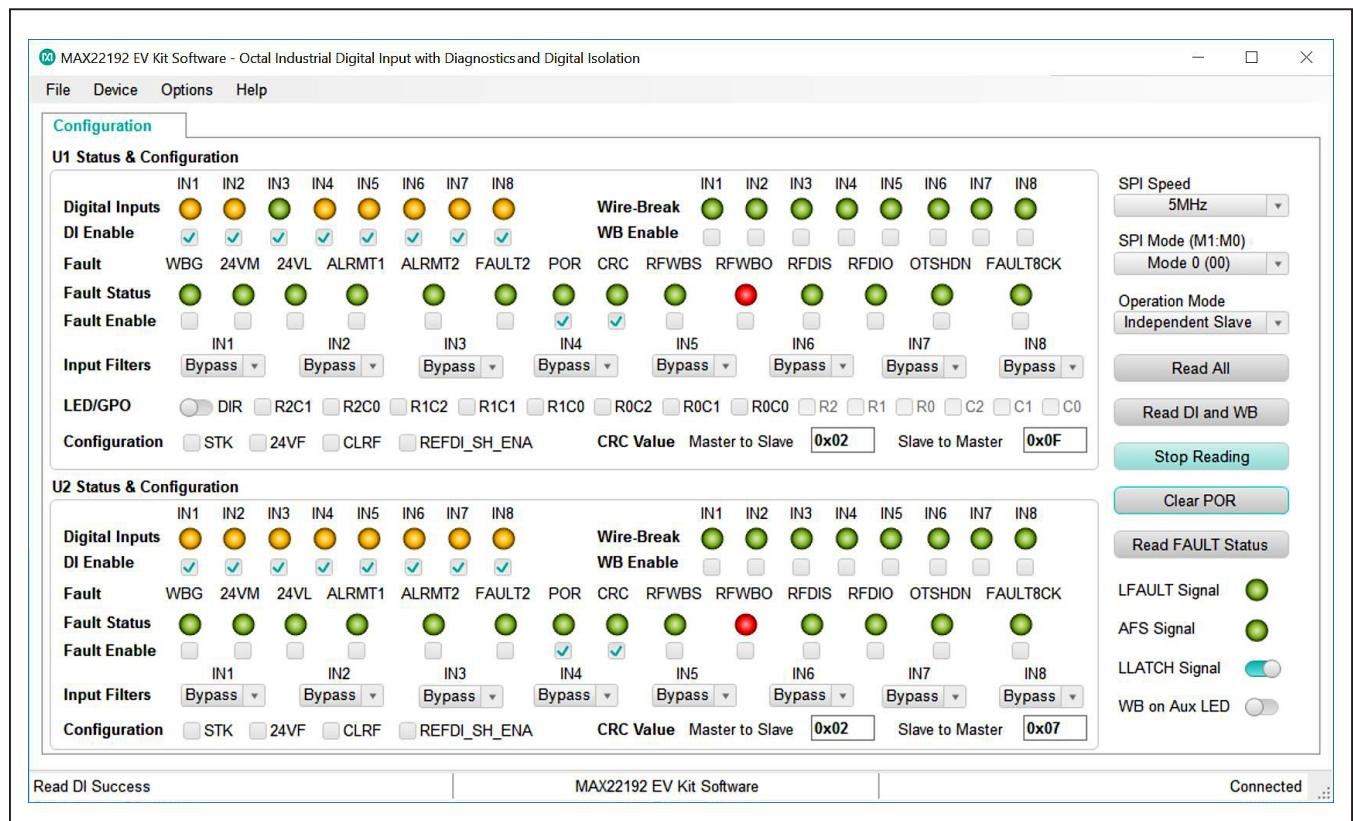

Figure 4. MAX22192 EV Kit Software—Read DI Continuously
- 15) Click **Read DI Continuously** button. The EV kit software reads the U1 and U2 DI registers continuously. Connect the 24V DC voltage to one of the input test points, for example, test point U1_IN3. The corresponding **Digital Inputs** status light **IN3** is changed to green from yellow to indicate U1 channel IN3 is high as shown in Figure 4.